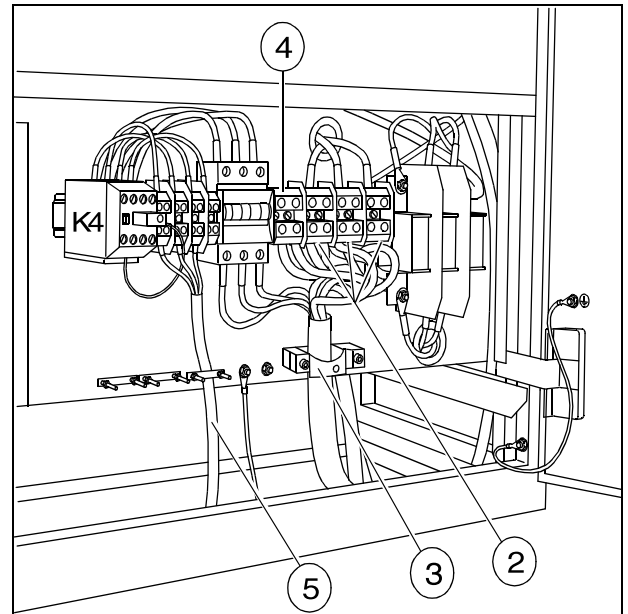

Fig. 7:
- Connect the power leads L1, L2, L3, N, PE to the terminal block K20 (2/Fig. 7 / p. 17); pay attention to connection of the correct phases.
- Strain-relieve the power cable (3/Fig. 7 / p. 17).
Check the jumpers at the terminals in M16. K20 (4/Fig. 7 / p. 17) change over if necessary (jumpers in accessories bag).
- Connect the power cables of the units or modules to be connected in M16 at terminal block K30 or K4 breaker (5/Fig. 7 / p. 17) (see also Wiring Diagram X2206-10).